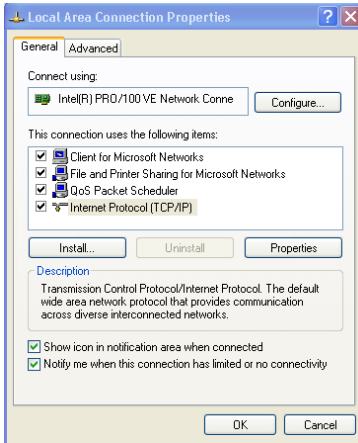

Figure 6: Local Area Connection Properties Window
5. Select the Internet Protocol (TCP/IP) and click the **Properties** button (see Figure 6).